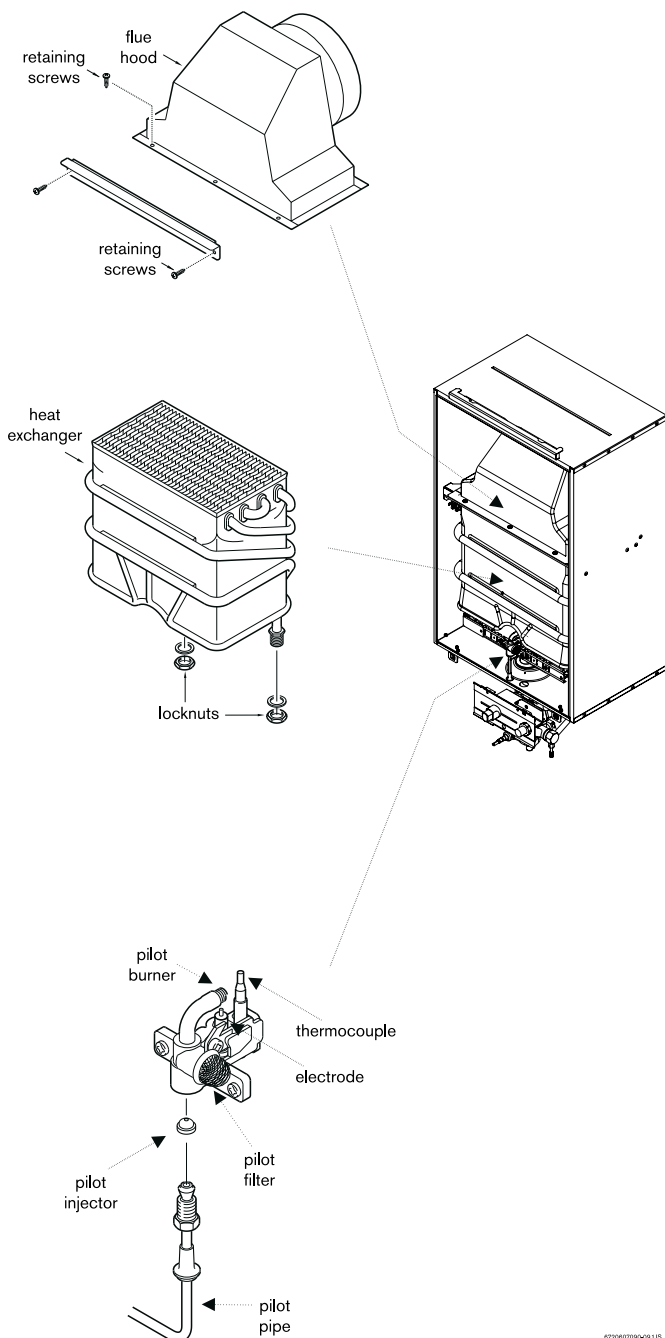

Fig. 18
- Pull off the pilot filter and clean. (fig. 18).